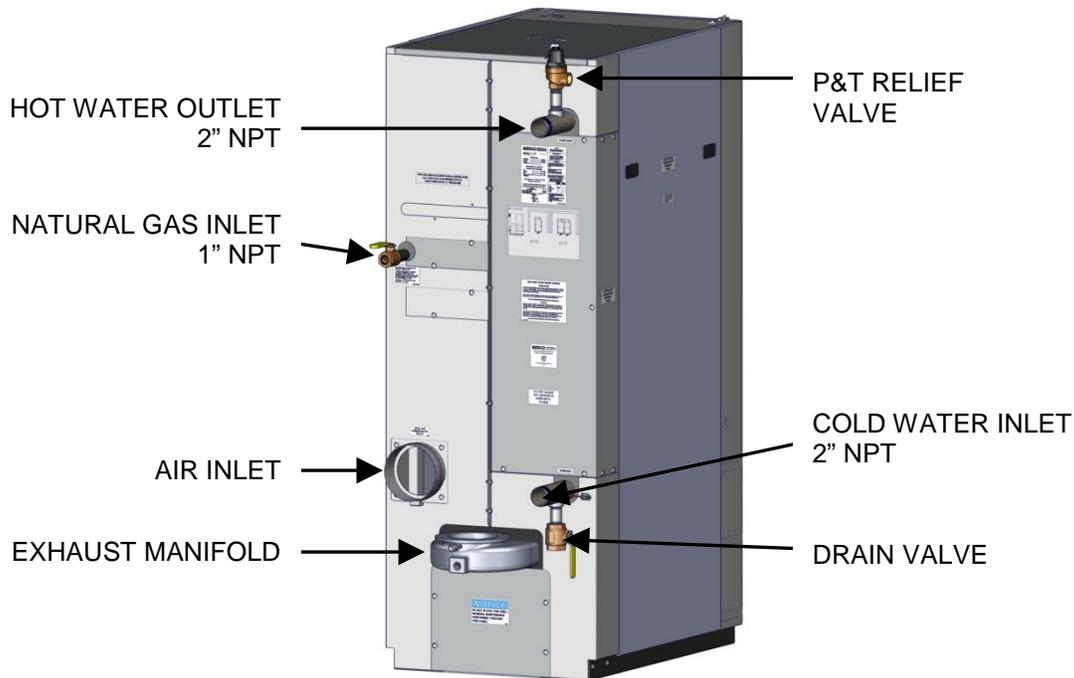

Figure 2-3a. Water Inlet & Outlet Locations
The locations of the 2" NPT cold water inlet and hot water outlet piping connections are shown in Figure 2-3a. Flow rates through the unit are limited to 50 gpm continuous and 75 gpm intermittent.
3. Ensure that the valve is positioned with the actuator enclosure position as shown in Figure 2-3A.